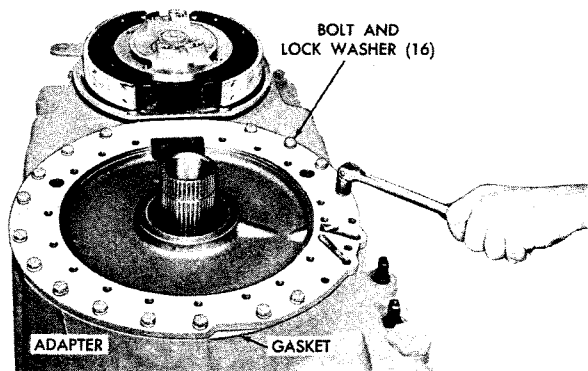

Fig. 7-8. Installing rear housing adapter bolts (-1 model)
(6) Install the sixteen 3/8-16 x 1 1/8 bolts, with lockwashers, to retain the adapter (fig. 7-8). Tighten the bolts to 26 to 32 pound feet torque.